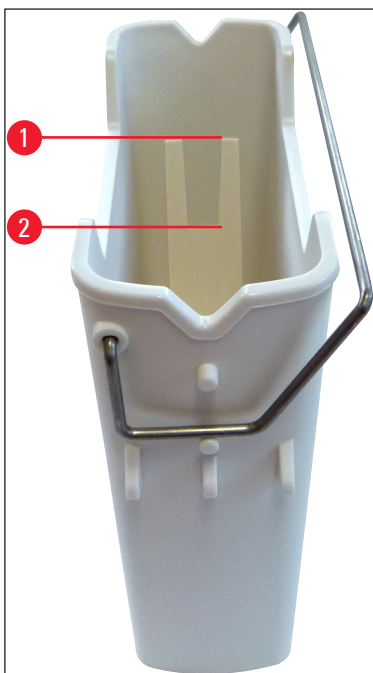

Fig. 18
- » Check whether the reagent vessel handle is correctly attached to the reagent vessel. If this is not the case, fasten the handle according to (→ Fig. 18).